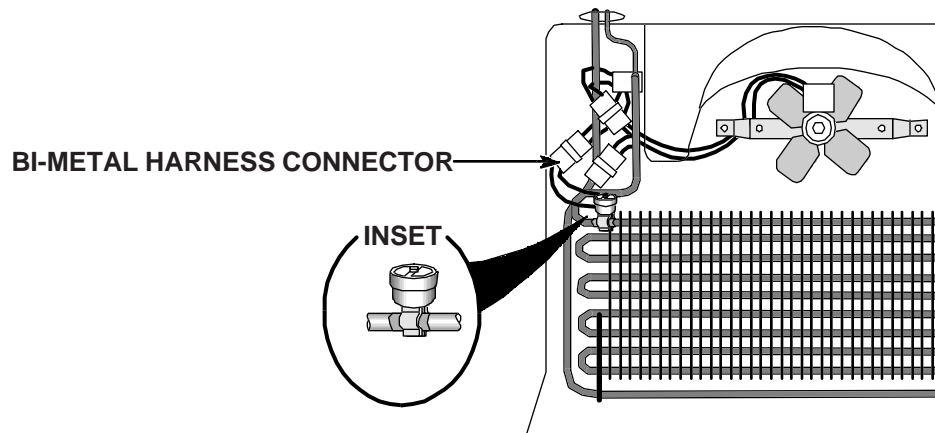

Fig. 54
1. Unclip the Bi-Metal from the evaporator inlet tube. (Fig. 54)